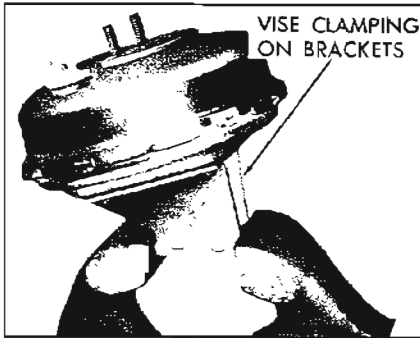

Figure 9-19—Power Brake Unit Positioned in Vise
4. Mount power brake unit in vise, clamping mounting brackets as shown in Figure 9-19.